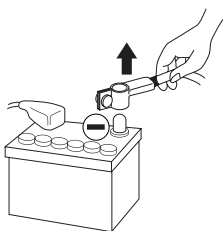

fig. 1
- **Before beginning installation, disconnect the negative battery terminal to avoid risk of injury, fire or material damage.** (Fig. 1)
- 2 - Disconnect the cable from the negative terminal on the vehicle battery before beginning installation (**Fig. 1**).
Before beginning the connection phase, remove the negative (-) terminal from the battery of the vehicle (fig.1).